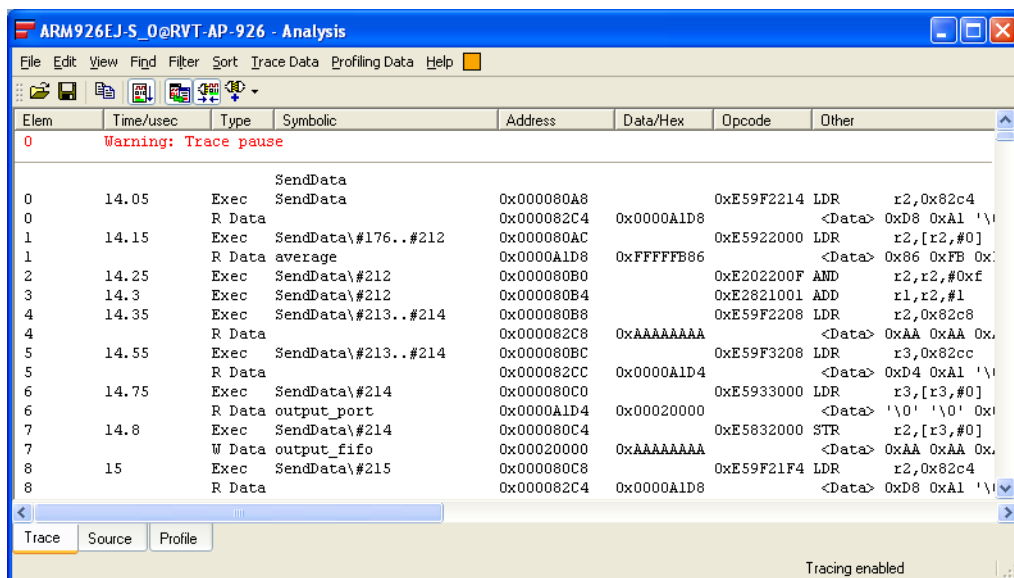

Figure 10-55 Captured trace in Analysis window
6. Select **Trace Data** → **Inferred Registers** from the Analysis window menu to hide the inferred register view. Figure 10-55 on page 10-50 shows an example: